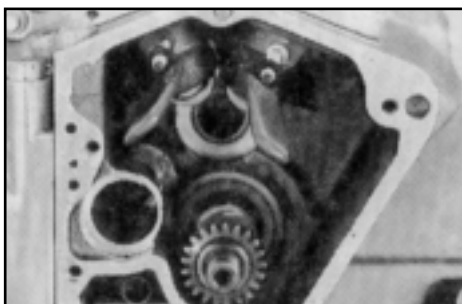

Fig. 6
7. Now remove cam. It will pull out easily and the tappets and pushrods will stay in place (Fig. 6).